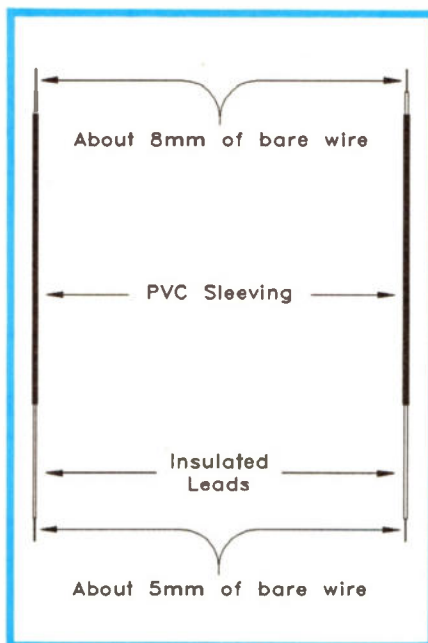

Figure 6. Preparing the probes.
e) We now need to make the probes. These are made up from two pieces of insulated wire (coloured red and black) and two pieces of hollow insulated sleeving (also coloured red and black). The wire is multi-stranded, which means that the metal core consists of several very fine wires. The probes should be made up as shown in Figure 6, use wire strippers to remove the insulation where shown. The bare ends of the leads should be twisted together to prevent the wires from playing apart and breaking off. Slide the red sleeving over the red wire and the black sleeve over the black wire. This sleeving forms the body of each probe. Connect the two wires to the